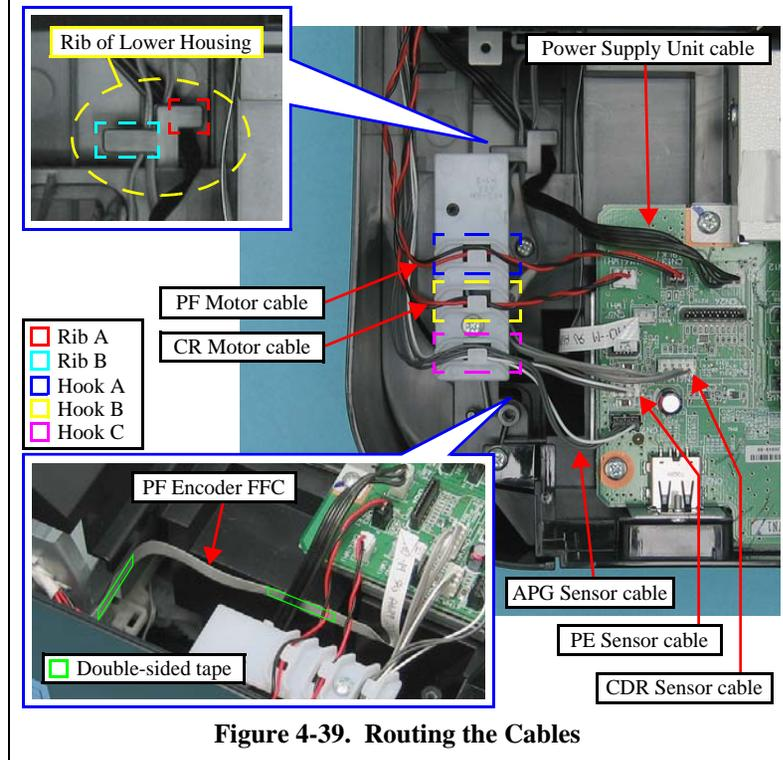

Figure 4-39. Routing the Cables
- For routing the cables, see Figure 4-39(p. 79).